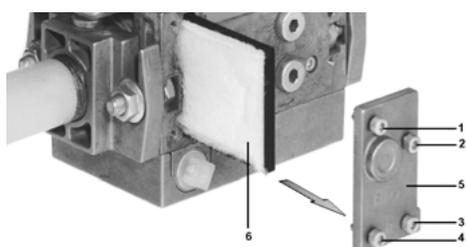

Fig. 50
- 2 Remove screws 1 ÷ 4 using the Allen key n. 3 and remove filter cover 5 in Fig. 50.